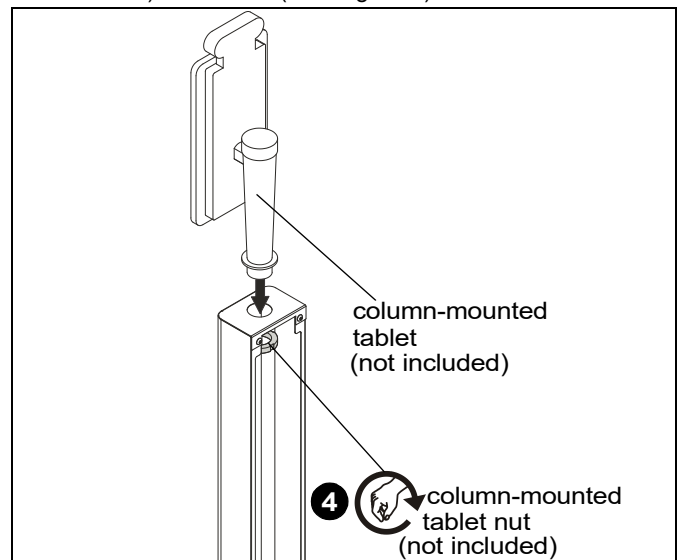

Figure 3
4. Use column-mounted tablet nut (provided with column-mounted tablet) to install column-mounted tablet (not included) to column. (See Figure 3)